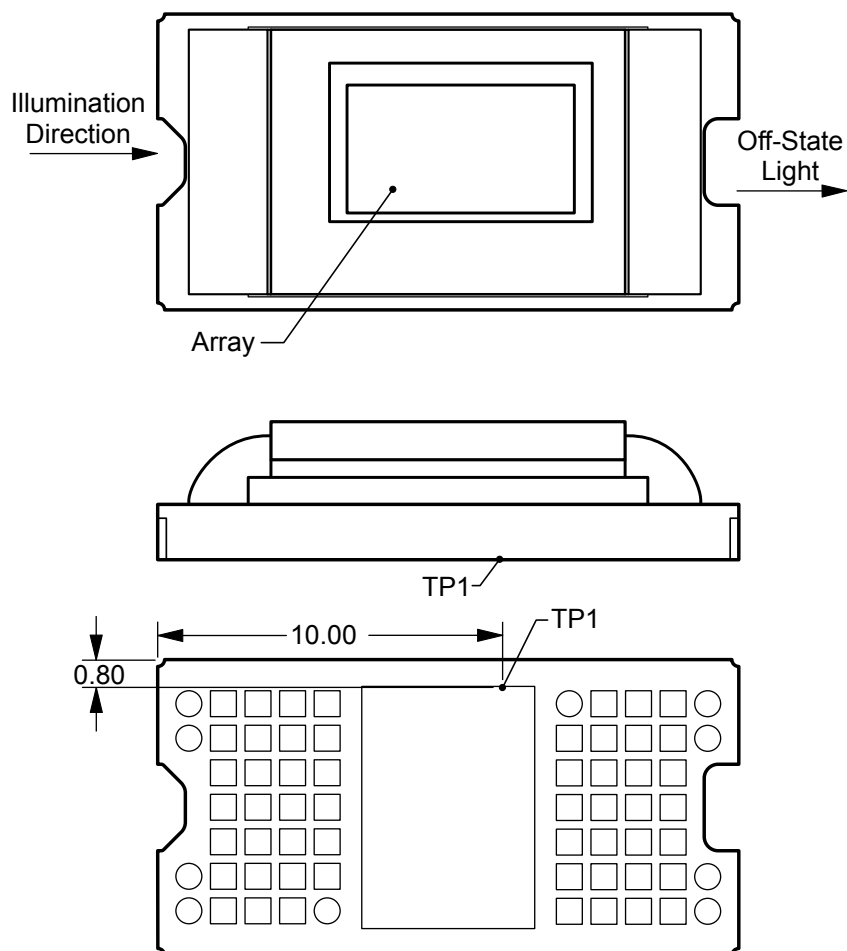

图 7-8. Thermocouple Location
Relationship between array temperature and the reference ceramic temperature (thermocouple location TP1 in Figure 7-8) is provided by the following equations.
- T_{CERAMIC} = measured ceramic temperature (TP1 location in Figure 7-8) (°C)